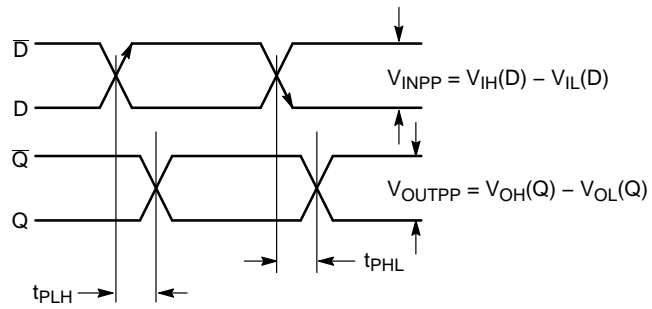

Figure 10. AC Reference Measurement
25. See Figure 10. $t_{\text{skew}} = |t_{\text{PLH}} - t_{\text{PHL}}|$ for a nominal 50% differential clock input waveform.